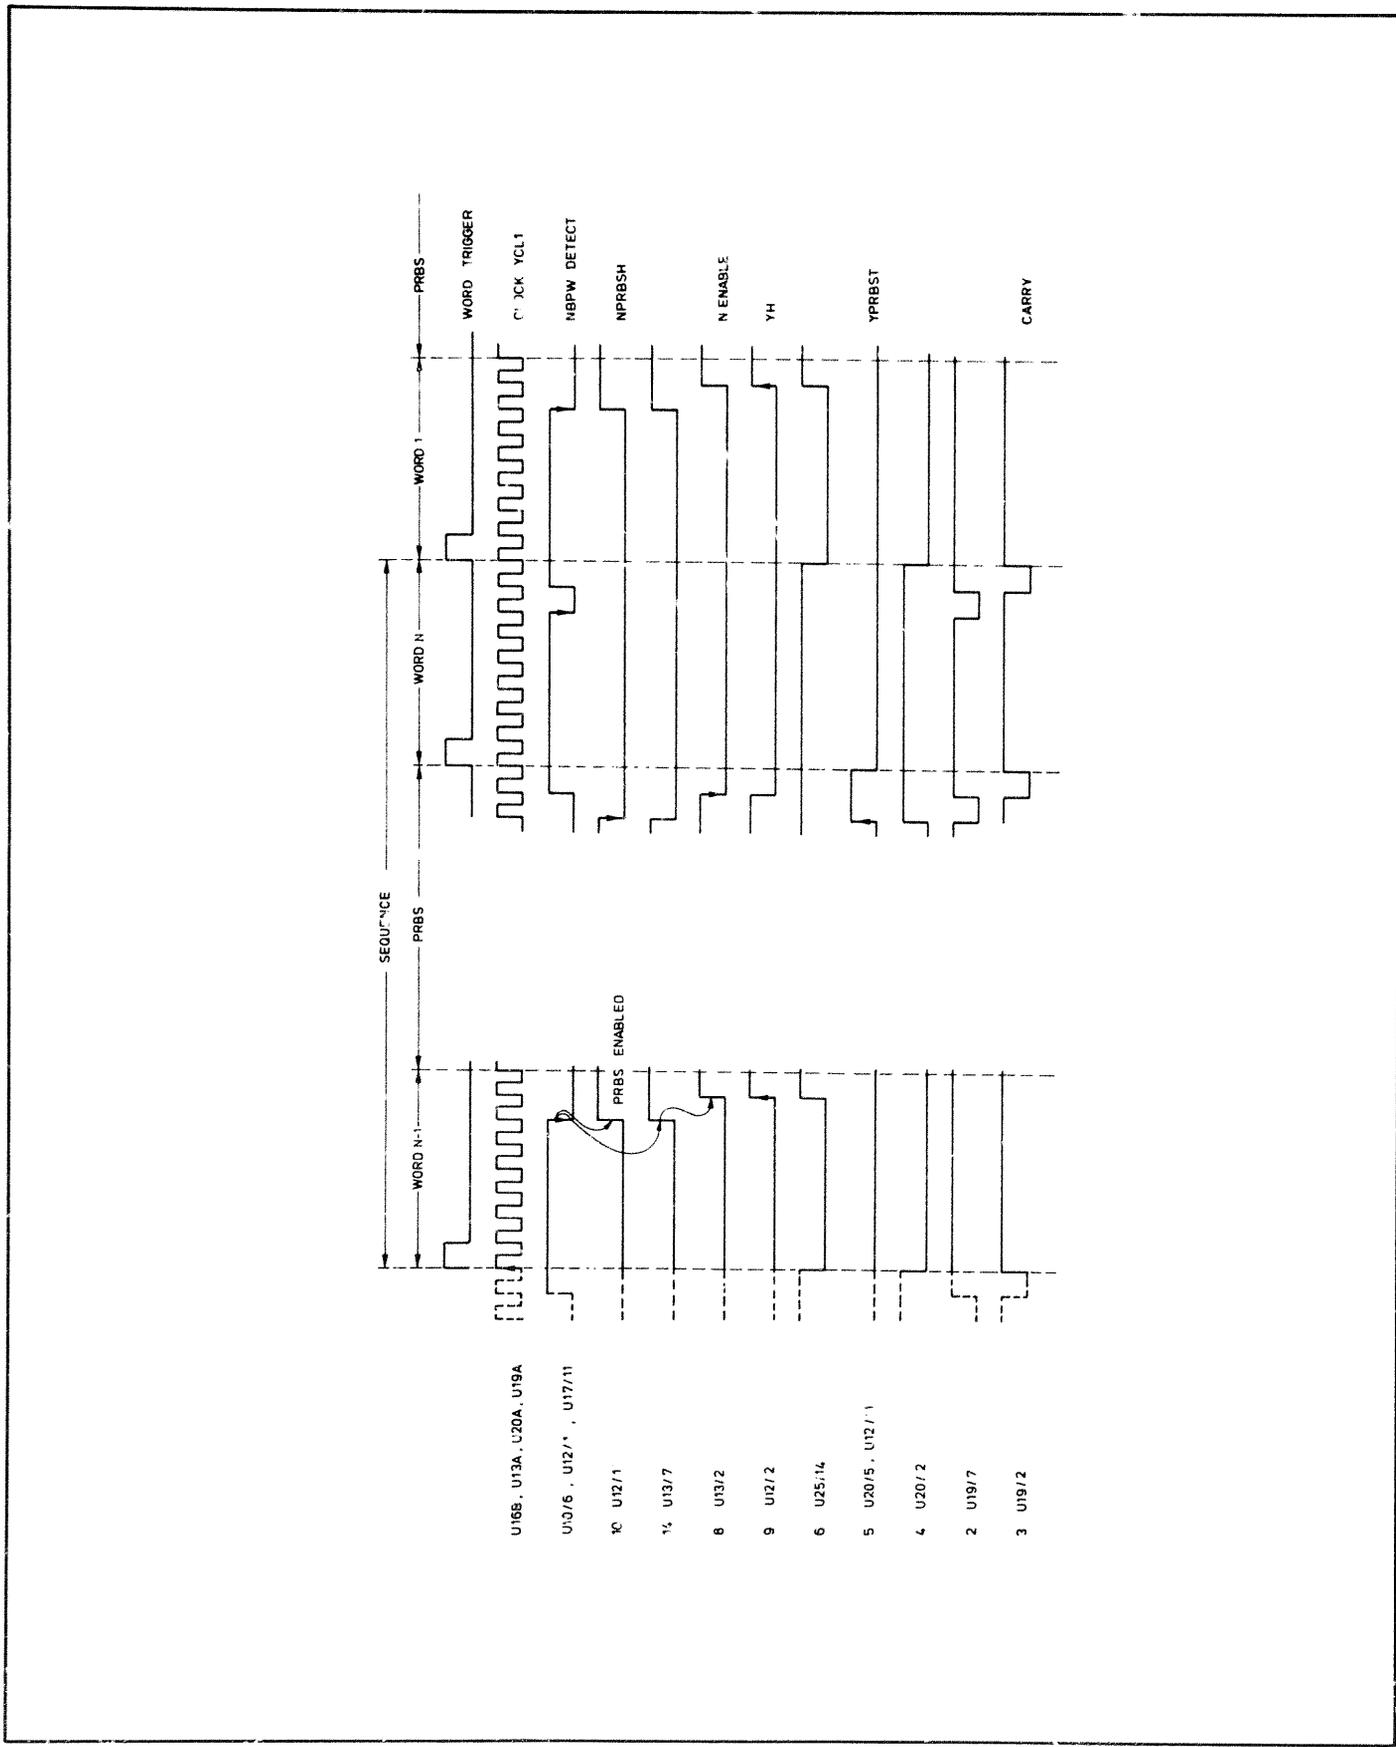

Figure 8-4-4. Mixed Mode Timing Diagram
A more detailed description of MIXED MODE operation is given as follows and is based on the timing diagram Figure 8-4-4. As already described in 'WORD MODE Readout', the preset conditions for the BPW counter and WPF (NUMBER OF WORDS) counters are established during the last two clock cycles of the previous frame. On the second last clock cycle, a low is generated at U17 pin 14 (word end detect) and U17 pin 2 (last bit detect), each of which is clocked through flip-flops U16B and U20B on the last clock cycle for presetting the requisite counters. The first clock cycle of the new frame clocks the preset numbers (2 into the BPW counter and NUMBER OF WORDS into the WPF counter) into the respective counter, at the same time setting the BPW counter to increment mode (a high is generated at U16B Q output on the first clock cycle of a frame as 'word end' (YWE) is no longer true – a high at the S2 inputs setting the counter to increment mode) and the WPF counter to decrement mode (a high is generated at U20B Q output because 'last bit' (YL) is no longer true on the first clock cycle of a frame – a high at the S1 inputs setting the counter to decrement mode).